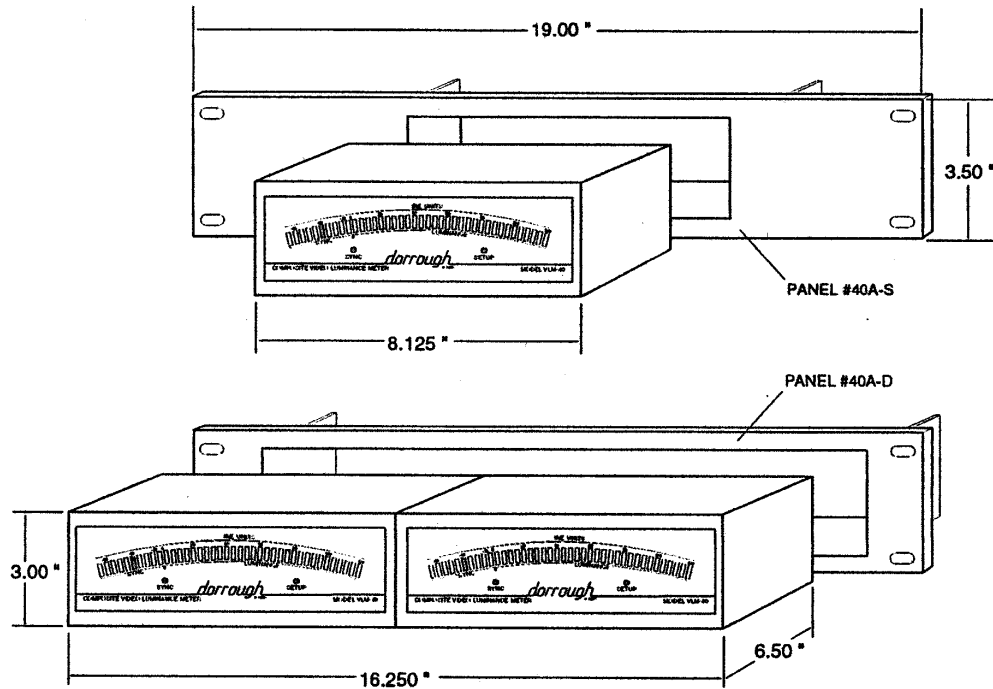

Fig. 3. Dimensions for mounting a VLM-40 in an optional Dorrough panel.
- To panel-mount the VLM-40, refer to Fig. 3 for mounting dimensions. Choose a ventilated area that provides a minimum depth of 10" for proper cable routing.